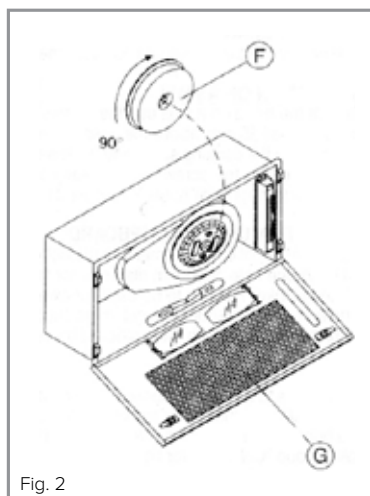

Fig. 2
3. Connect the exhaust pipe to the duct adapter (B in figure 2.) and locate on the extractor, as indicated. We recommend the use of 120mm (5") ducting, although 100mm can be used with the use of a 120-100mm converter: Note that this will affect performance.